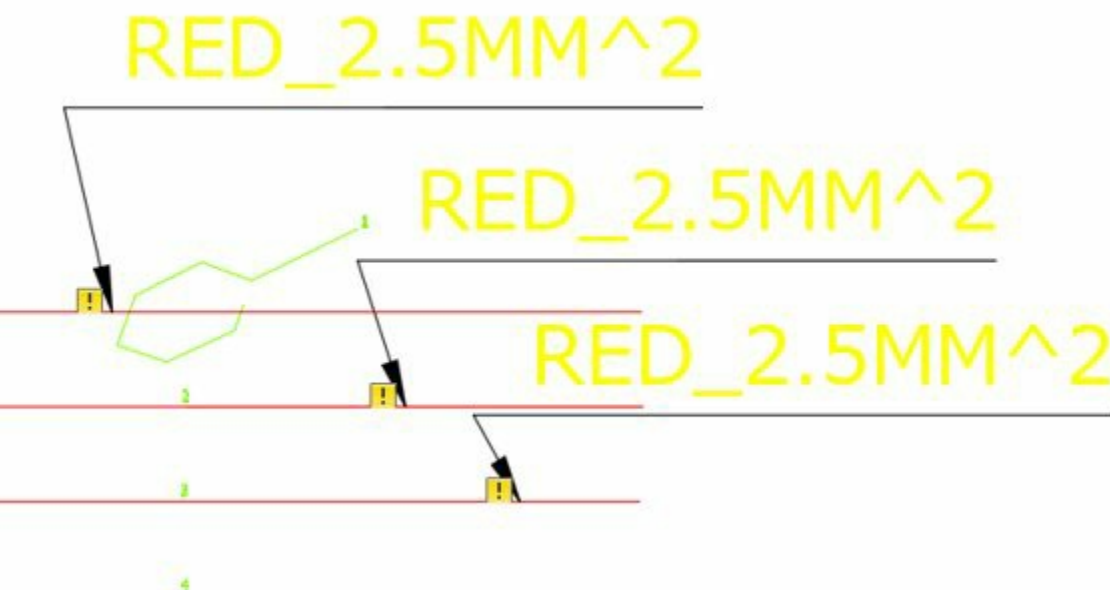

Figure-37. Wire labels www.EngineeringBooksPdf.com
- After selecting the desired button, click on the wire and follow the instructions given by system. Press ENTER to create the labels. The labels will be attached to the wires; refer to Figure-37.